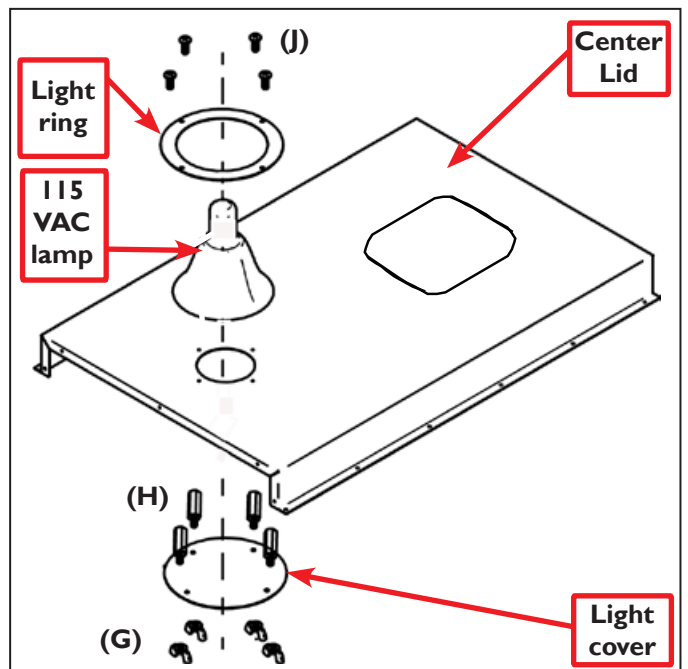

Figure 22
56. Place a 115 VAC Lamp (E.4;Tormach PN 34436) on top of the Center Lid (E.22) as seen in **Figure 22**.
57. Place the Light Ring (E.5) over the light and fasten into place using (J) screws around perimeter of ring.
58. From inside of the enclosure, thread Hex Standoffs (H) onto protruding portion of exposed (J) screws (see **Figure 22**).
59. Align the Light Cover (E.3; Tormach PN 34435) onto the Hex Stand-offs and secure with Wing Nuts (G) (see **Figure 22**).